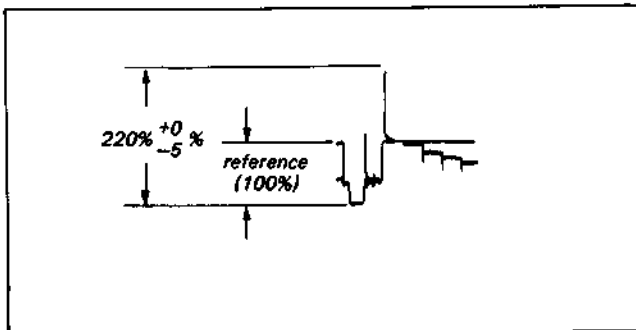

Fig. 4-20. White clip adjustment
- (3) Adjust RV6 so that the signal tip (white peak) is 220%  $\pm 5\%$ . (See Fig. 4-20.)